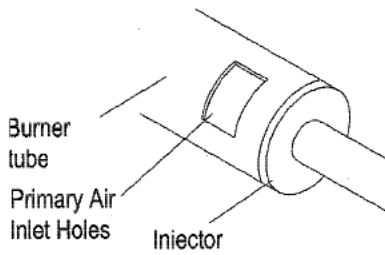

Figure 21 -Injector Holder On Outlet Burner Tube
2. Inspect burner, pilot and primary air inlet holes on injector holder for dust and dirt (see figure 21).